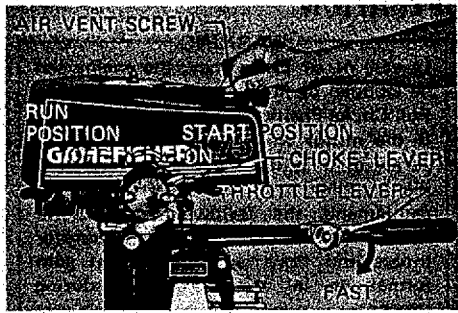

Figure 7
8. STARTING PROCEDURE (See Fig. 7 & 7A)